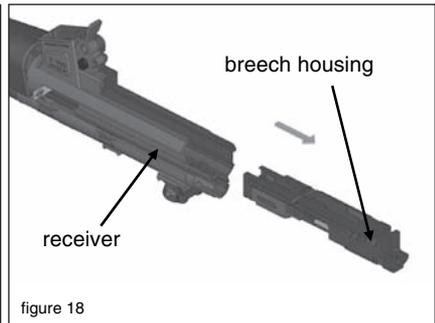

figure 18
8. Now you can pull out the breech housing. (*figure 18*)